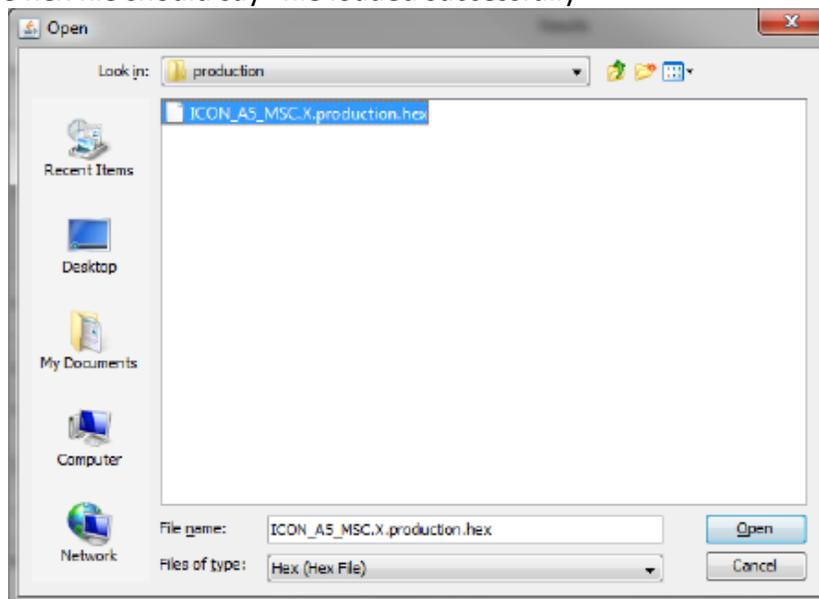
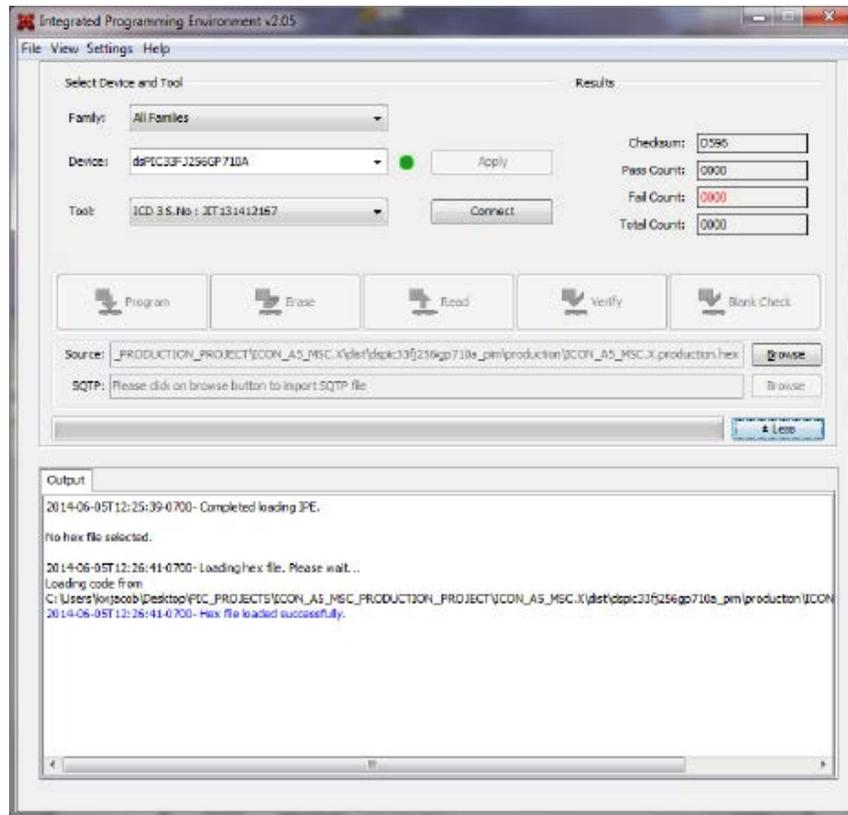

Figure 5: Open Dialog Reference
Figure 6: Programming Screen Shot
11. Using the browse button, select the .HEX file supplied for your software version. The following dialog will open, allowing you to point to the .HEX file, Figure 5 and Figure 6.